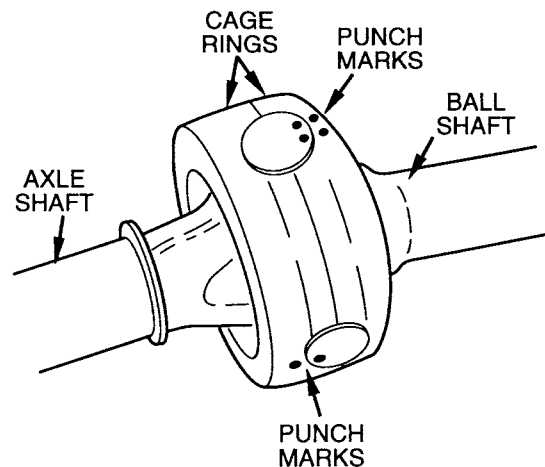

Figure 13 Match Marking Axle Shafts and Cage Rings
17. Mark the cage ring (20) and shafts with a series of punch marks to assure proper assembly sequence. (See Figure 13).